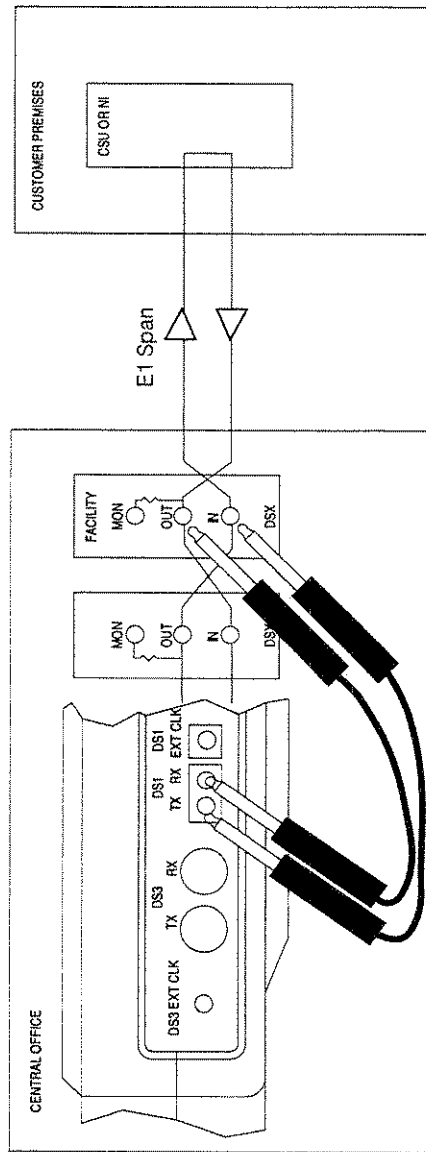

Figure 2.1.A Accept an E1 Circuit
Here is a procedure for accepting a new circuit. The setup is illustrated in Figure 2.1.A.
- 5) Connect the SunSet to the circuit as shown in Figure 2.1.A. Press the HISTORY key to acknowledge any blinking history lights and turn them off.